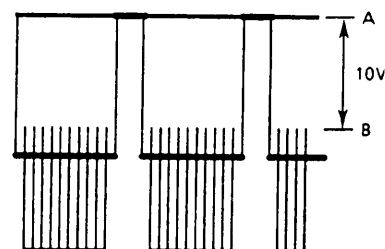

Fig 10.
- 2: Connect the oscilloscope to TP-B, TP-g and TP-r and fully rotate the Screen VR anti clockwise. Then rotate it clockwise until no further movement is observed in line A below (fig. 10).